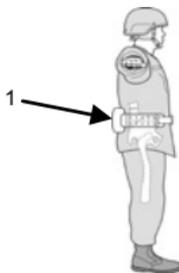

Figure 15. Proper Position of Hip Belt.
2. Buckle and adjust hip belt at proper location (Figure 15, Item 1), according to height.